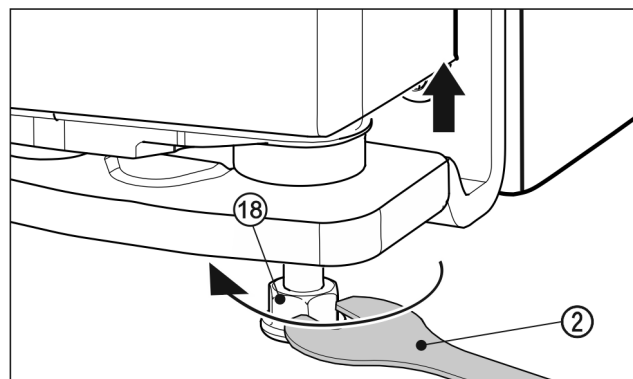

Fig. 25
- ▶ To lift the door, unscrew the adjusting foot *Fig. 25 (18)* clockwise using the supplied open-ended spanner *Fig. 25 (2)* until the foot comes into contact with the floor. Then continue turning until the door is adjusted to the right height. When delivered, the bearing pin is completely screwed in.